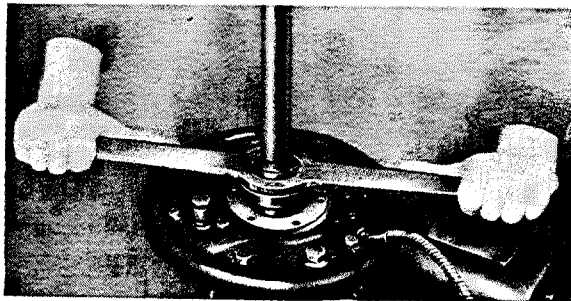

Fig. H 3a/78
78. Press ball bearing on rear axle shaft, put on lock plate (collar facing inner race of ball bearing) and tighten slotted nut forcefully by means of wrench 136 589 09 07 (Fig. H 3a/78).
Peen lock plate into grooves of slotted nut (Fig. H 3a/78a).